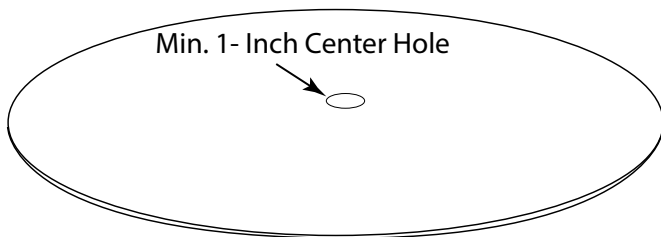
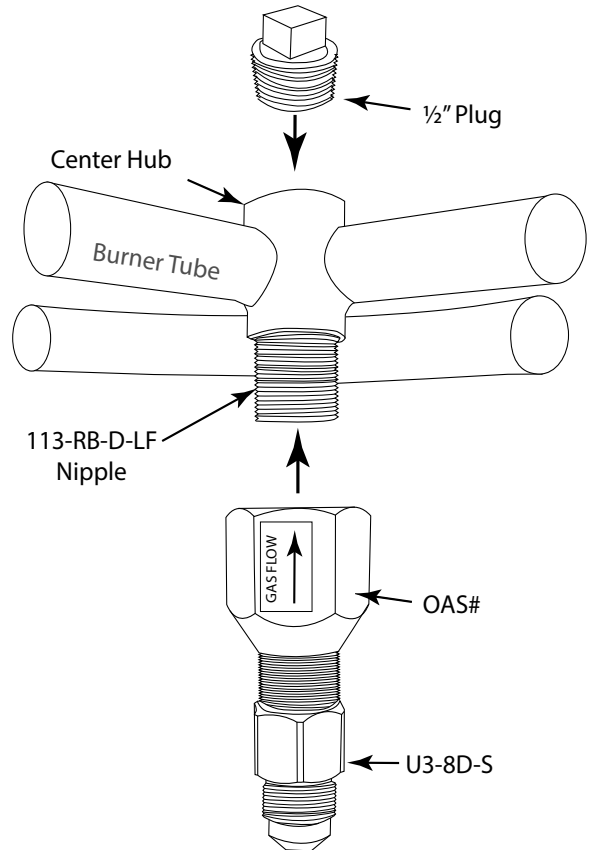
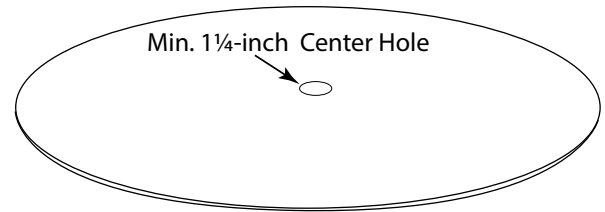

Fig. 6 Minimum 1-inch center clearance hole in burner pan.
Fig. 7 Natural gas models 6/12/18/24-inch fire ring parts.
Fig. 9 Minimum 1¼ -inch center clearance hole in pan.
CAUTION: Do not assemble the OAS and U3-8D-S until you are ready to install the fire ring into the burner pan. The OAS is 1½" in diameter and would not fit the recommended center hole size per Fig. 6 and Fig. 9.
Before you begin installing the fire ring into a burner pan ensure the center hole is a minimum of 1-inch in diameter (See Fig. 6). Models FG-FR-6SSK, FG-FR-12SSK, FG-FR-18SSK, and FG-FR-24SSK are supplied with a ½" plug, ½" nipple, OAS and FIP x MIP flare fittings (U3-8D-S) and key valve. **Note:** Burners only do not contain key valve. These items must be installed into the fire ring as shown in Fig. 7. Position the Fire Ring port holes facing upward for both Natural Gas and LP Gas. **Ensure to seal each NPT fitting with thread tape or pipe compound. NOTE:** Flared fittings will not require tape or compound on the flared side.
Step 1: Install ½" plug on top of fire ring and assemble the remaining parts as shown in Fig. 7.
Before you begin installing the fire ring into your burner pan ensure the center hole is a minimum of 1¼ -inch in diameter (See Fig. 9). Models FG-FR-30SSK, FG-FR-36SSK, and FG-FR-48SSK come with a ¾" plug, ½" nipple, OAS and FIP x MIP flare fittings (U3-8E-S) and ¾" to ½" reducer (S4100-128) and key valve.